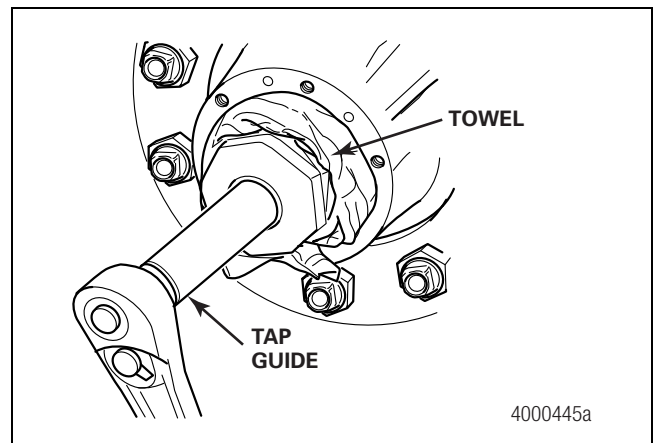

Figure 2.38
12. Install the tap guide onto the axle spindle. Tap the axle spindle with a 1/4-inch NPT tap. A 1/2-inch, 12-point socket and 3/8-inch drive ratchet can be used to drive the tap. Use tapping lubricant. Figure 2.38. Refer to Section 7 for the solid spindle tap guide part number.